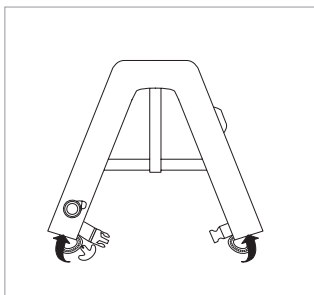

FIGURE 29 PUSH IN ENDS
- 9) Use a finger to push the zipper ends into the openings at the bottom of the the packed life jacket (Fig. 29).